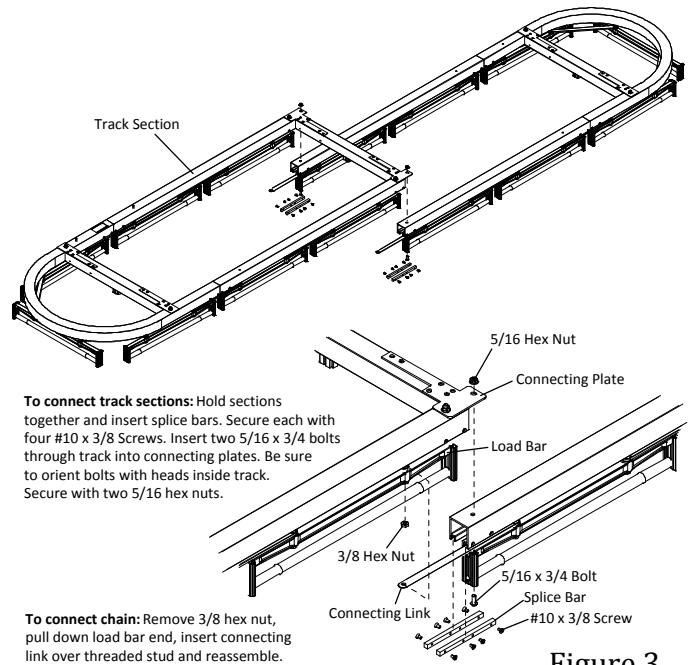

Figure 3
- Models TK-10 through TK-14 have a two piece track. Connect the sections as shown in Figure 3.